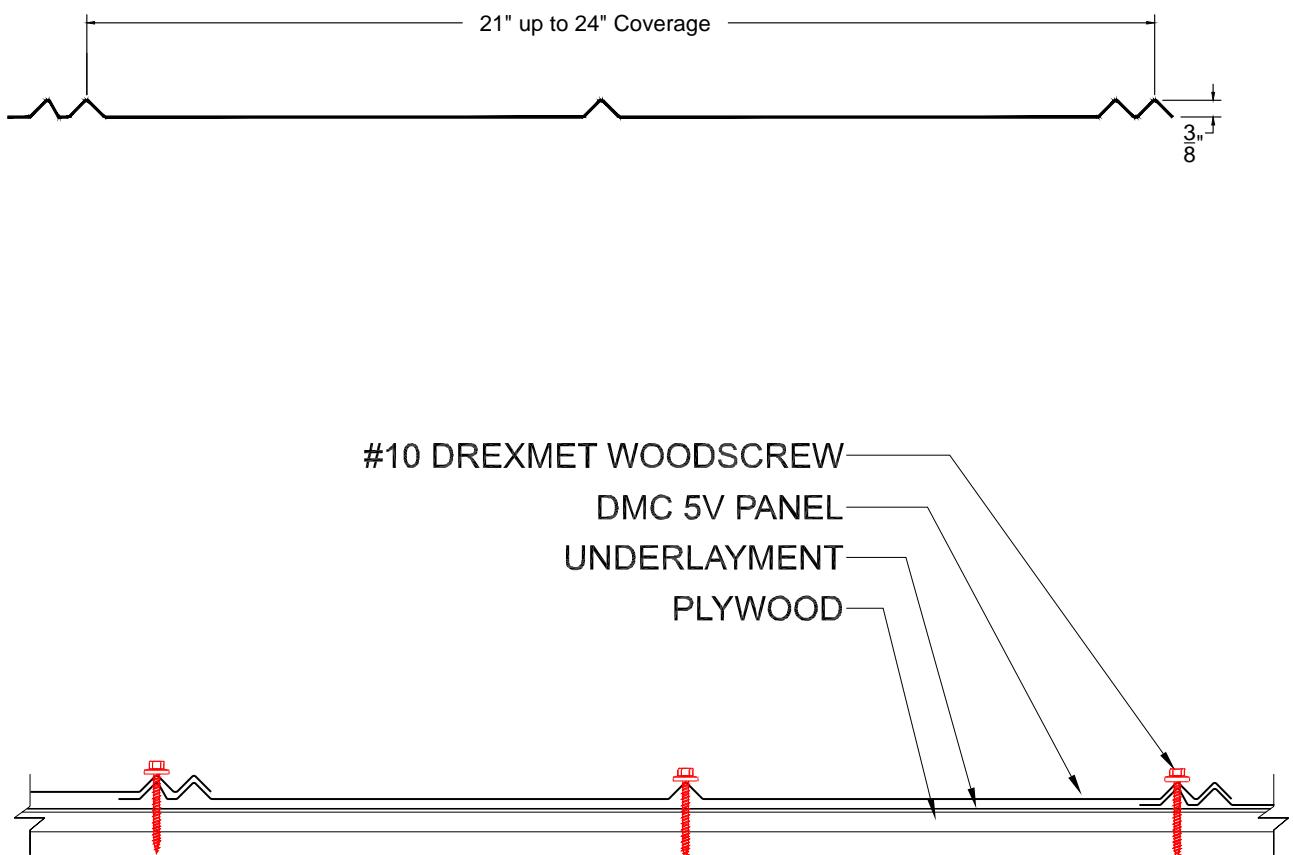

Figure 1. DMC 5-V Metal Roofing Panel
This evaluation report is for the DMC 5-V metal roofing panels installed over a plywood deck. The aluminum metal roofing panels have 21" minimum / 24" maximum coverage. The metal roofing panels have five (5) v-shaped ribs, two (2) at each end and one (1) at the center. The ribs are 3/8" in height. The metal roofing panels are manufactured from minimum .032" Aluminum. Refer to Figure 1 for an illustration of the DMC 5-V metal roofing panel.
The fasteners must be long enough to ensure a minimum penetration of 1/4" below the roof deck. (Note: If the metal roofing panels are installed over an existing roof covering, then the fastener length must be increased so that the fasteners are long enough to ensure a minimum penetration of 1/4" below the existing plywood roof decking.) The fasteners must be located at the top of the V-shaped ribs. Refer to Figure 1 for an illustration of the fastener locations. A line of fasteners are to be installed beginning 3 inches from the panel end and spaced as specified in Table 1.